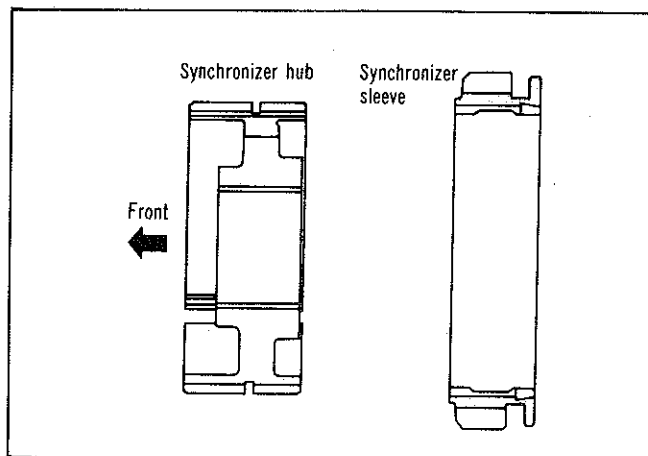

Fig. 33—Fifth gear synchronizer assembly
(21) Assemble the fifth speed gear synchronizer hub, sleeve and shifter plates as shown in Fig. 33. The springs must be installed in the same manner as the 1-2 and 3-4 synchronizer assemblies, refer Fig. 24.
(22) Install in the following order the spacer, stop plate, fifth speed synchronizer assembly, bearing sleeve, needle bearing, synchronizer ring and the fifth speed gear, onto the mainshaft.